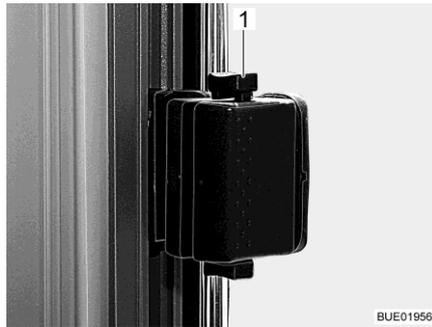

Fig. 75 Sliding window, locked
- Push the latch (Fig. 75,1) downwards.